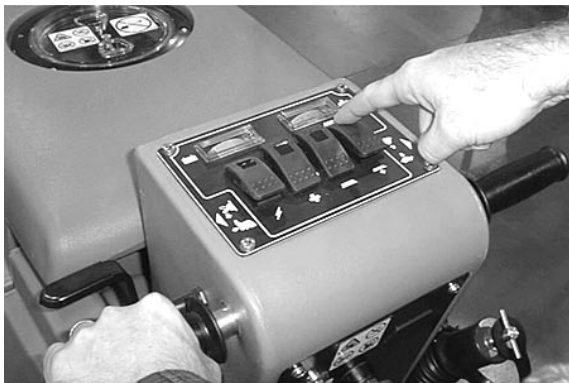

FIG. 6
2. Raise scrub head. Press top half (–) of brush pressure switch to raise. Hold switch down until scrub head actuator turns off (Figure 6).